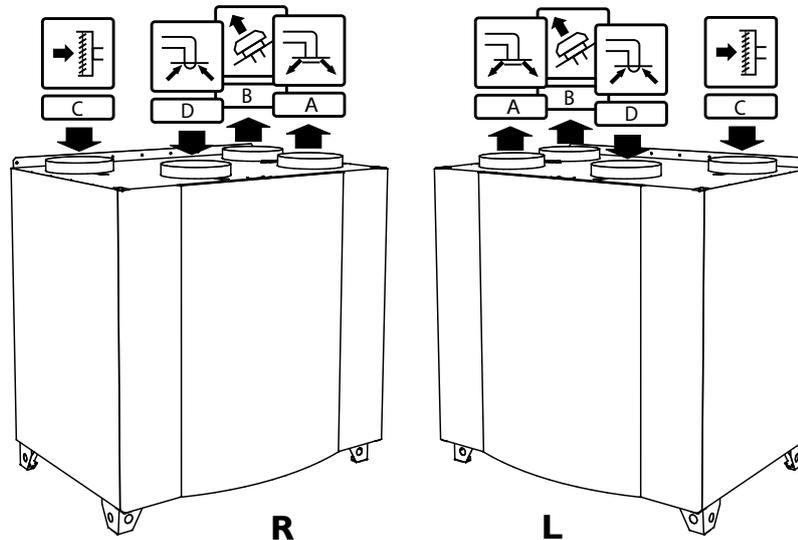

Fig. 3 Right and Left models
The SAVE VTC 700 is a heat recovery ventilation unit with a built in counter flow plate heat exchanger. There are two model options, right (R) and left (L) model (figure 3).